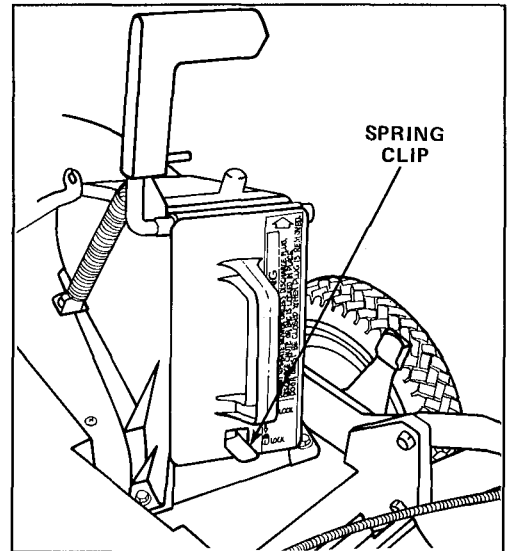

Figure 4
3. Push the plug all the way in until the spring clip on the bottom of the plug clicks into place, locking the plug securely into the discharge tunnel (Fig. 4). Release discharge door handle to lock top of plug.